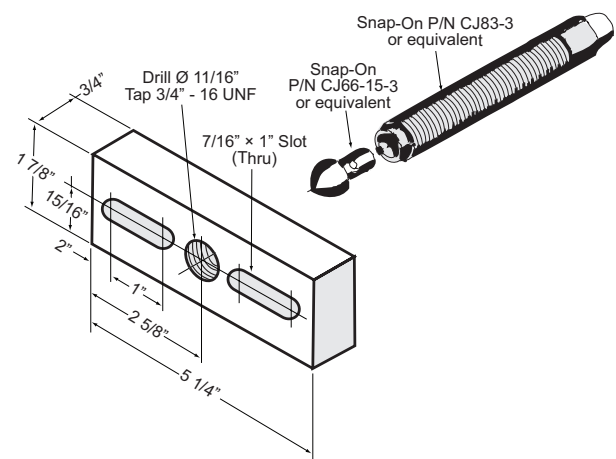

Figure 6-1 – Gear Puller
3. Remove the bolts and washers from the rotor shafts on the gear end. Remove the timing gear from the rotor shaft by using a gear puller (*see Figure 6-1*). Rotate the timing gear to the right and left, 3 teeth each direction from the timing marks on the face of the gears, as the gear is being removed. Inspect the gear teeth for wear and pitting. Inspect the rotor shaft keyway for wear and damage.
The timing shim is formed from a number of 0.003 in. shims that have been laminated together. They are easily peeled off as necessary or added to correct timing. Use feeler gauges to check the clearance at AA (right-hand reading) and BB (left-hand reading) (**see Figure 6-1**). The clearance should be adjusted so they are as equal between all lobes as possible – usually between 0.002 and 0.003 in. For best results, use feeler gauges no larger than 0.006 in.